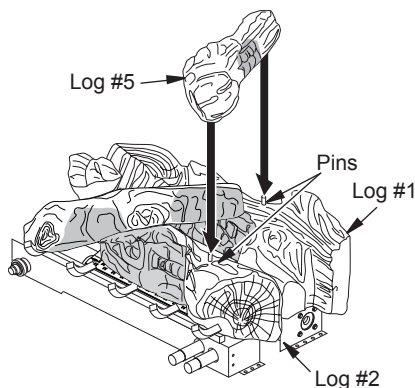

Figure 27 - Installing Log #5
- Align holes in bottom of top right log (#5) with pins on top of right front log (#2) and back log (#1). Place log on pins (see Figure 27).